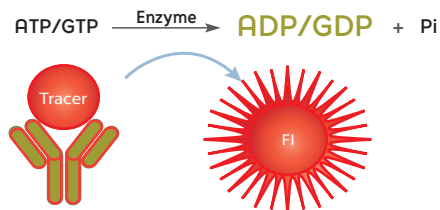

Figure 1. Transcreener[®] FI Assay Principle
The Transcreener[®] FI Assays are a single step, competitive immunoassay for direct detection of nucleotides with a red fluorescence intensity (FI) readout. The reagents for all of the assays are a red Tracer bound to a highly-specific monoclonal antibody-quencher conjugate. Nucleotide diphosphate or monophosphate produced by the target enzyme displaces the tracer from the antibody-quencher conjugate, resulting in an increase in fluorescence intensity (Figure 1). The use of a red tracer minimizes interference from fluorescent compounds and light scattering. The Transcreener[®] FI Assays are designed specifically for HTS with a single addition, mix-and-read format.